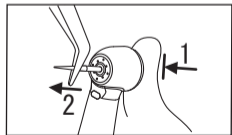

Fig. 11
Depress the push button to open the chuck (1) and remove the bur (2) (Fig. 11).